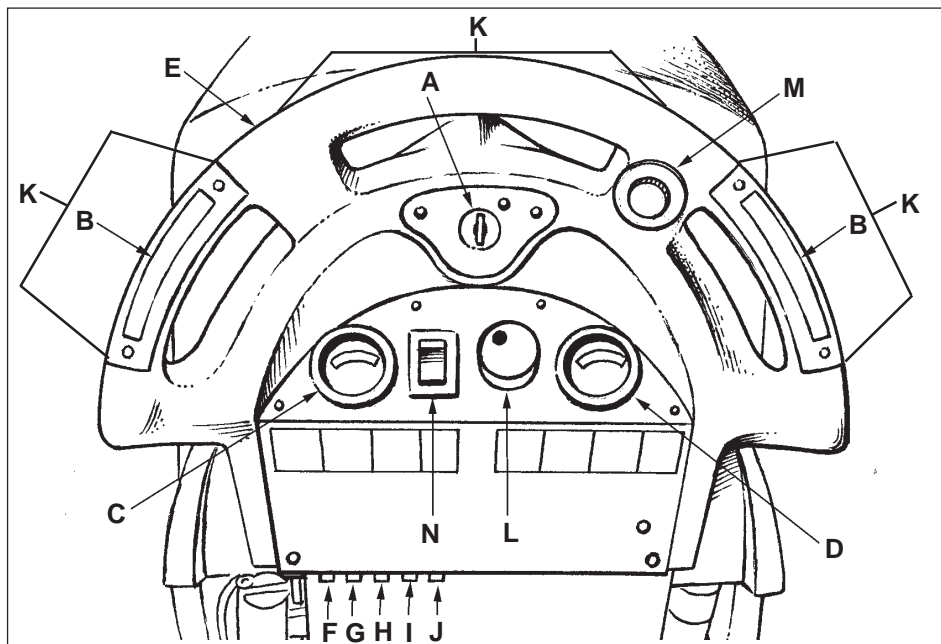

Figure 3
**Key Switch (See Figure 3, Item "A")**
**Forward Reverse Switch (See Figure 3, Item "B")
**Battery Meter (See Figure 3, Item "C")**
**Brush Pressure Meter (See Figure 3, Item "D")**
**Reverse Switch (See Figure 3, Item "E")**
**Circuit Breakers (See Fig 3, Items "F", "G", "H", "I" & "J")**
**Control Handles (See Figure 3, Item "K")**
**Solution Control Knob (See Figure 3, Item "L")**
**Traverse Speed Knob (See Figure 3, Item "M")**
**Brush Motor Switch (See Figure 3, Item "N")**